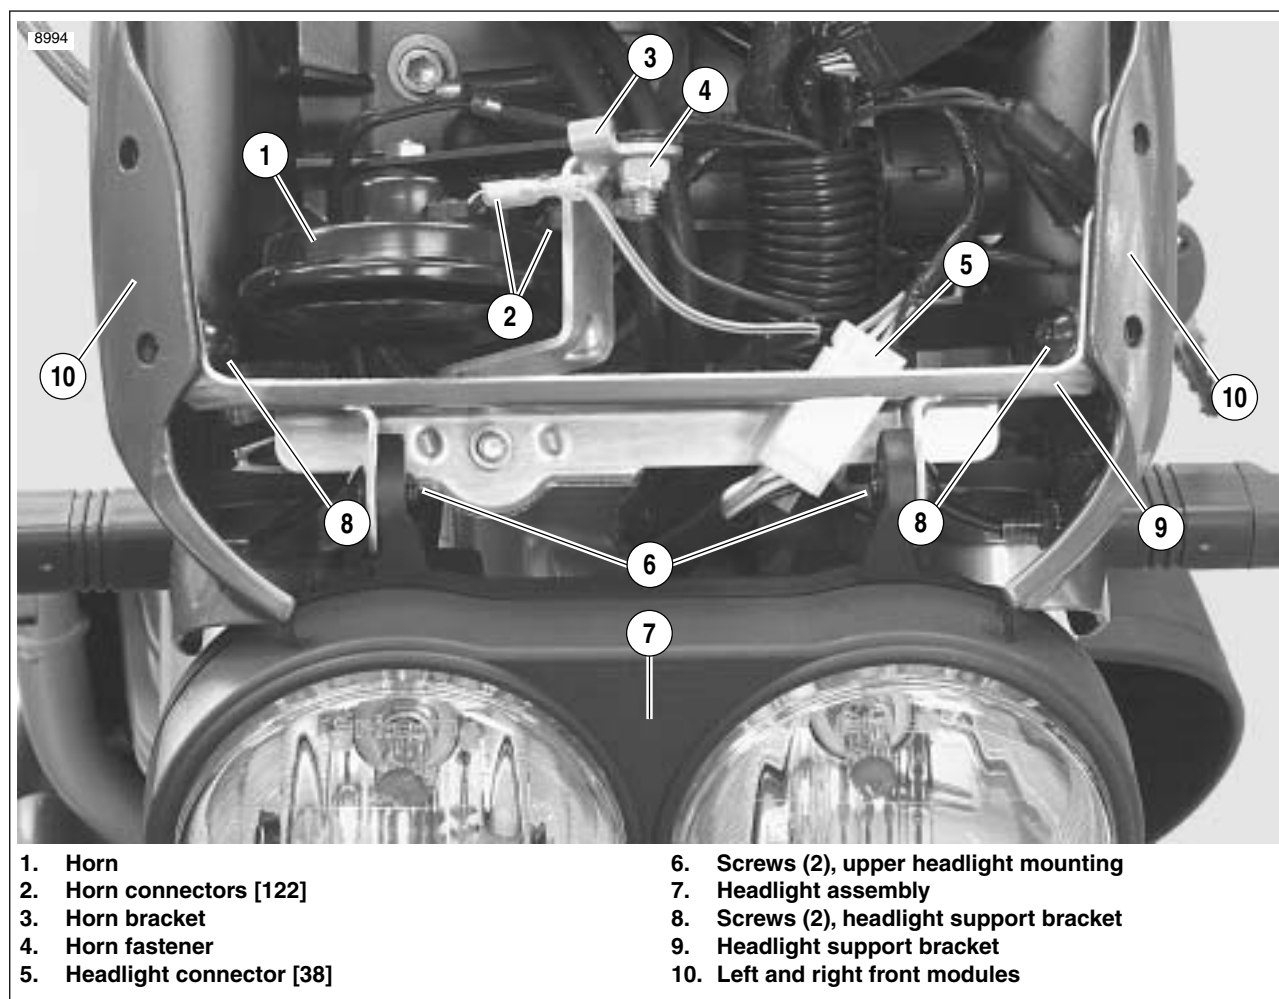

Figure 2-97. Headlight Assembly and Support Bracket
1. See Figure 2-97. Install headlight support bracket (9).
2. Install fasteners (8) securing headlight support bracket to left and right front modules (10) and tighten to 48-72 in-lbs (5.4-8.1 Nm).
- a. Install headlight assembly (7) into headlight support bracket (9).
- b. Install both upper headlight fasteners (6) but do not tighten.
5. Connect headlight connector [38] (5).
6. Install shorn (1) and tighten fastener (4) to 72-96 in-lbs (8.1-10.8 Nm).
7. Connect horn connectors [122] (2).